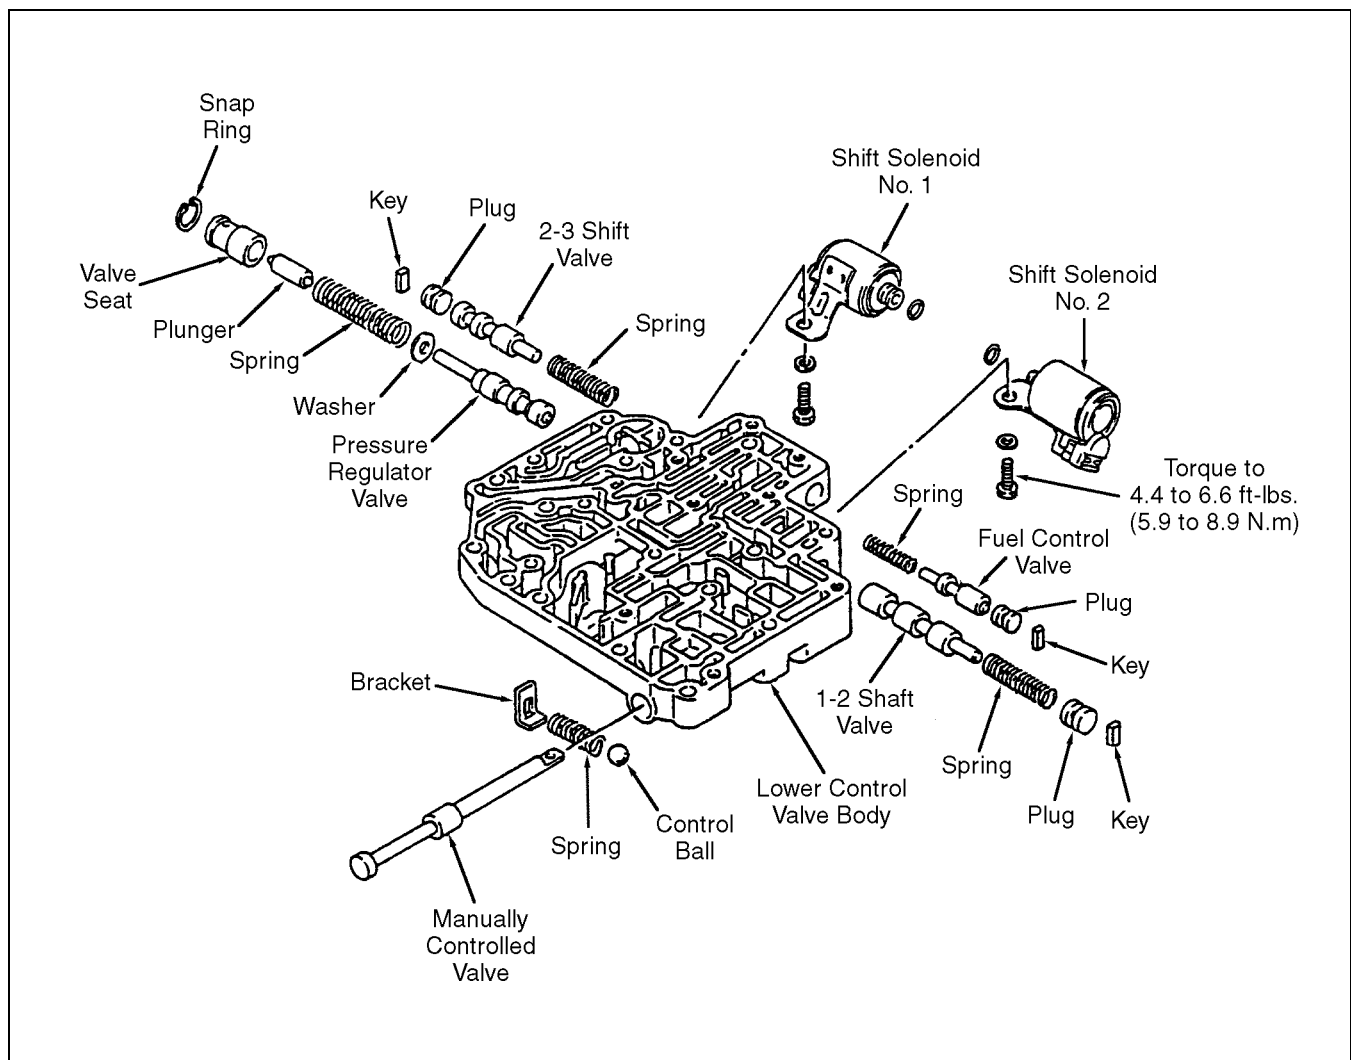

Figure 4J-36. Lower Control Valve Repair
6. Reassemble the lower control valve assembly as shown in Figure 4J-36.
### Accumulator Repair (See Figure 4J-37)